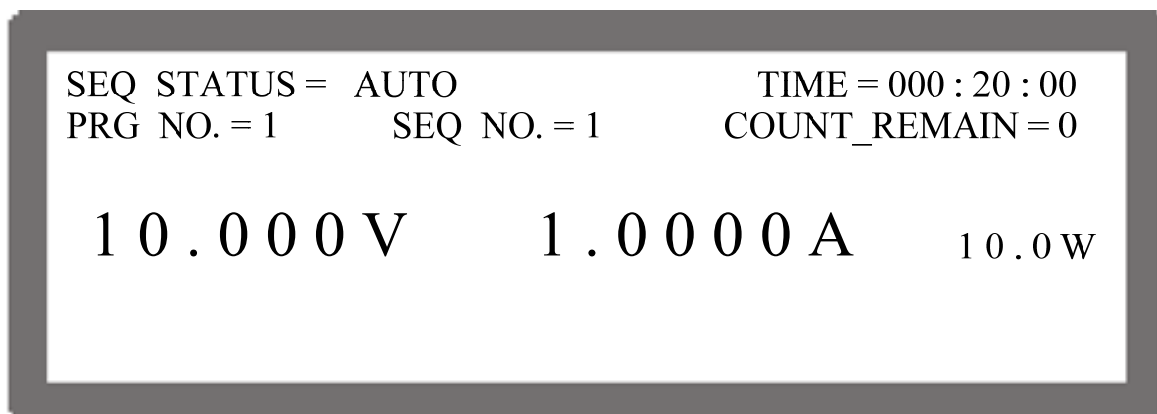

Figure 4-16
2. Press “” again to confirm the execution and go to MAIN PAGE as Figure 4-16 shows. To quit the execution, press “” will return to the standby MAIN PAGE.